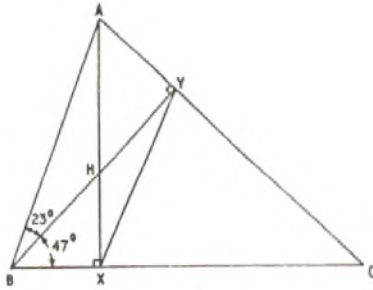

Fig. 1
Q. 4. In Fig. 1 below, a triangle ABC has altitudes AX and BY which intersect in H.  $\angle ABH = 23^\circ$ ,  $\angle CBH = 47^\circ$ .